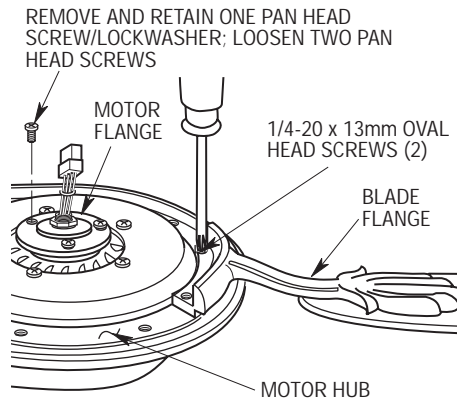

Figure 2
- 3. Position the blade flange on the motor hub so that the mounting holes in the blades flange align with the two threaded holes in the motor hub (Figure 2). Securely install two 1/4-20 x 13mm oval head screws (supplied). Repeat this procedure for the remaining four blade assemblies.
- 4. Remove and retain one of the three pan head screw/lockwashers from the motor flange (Figure 2); loosen the other two pan head screws three or four turns.